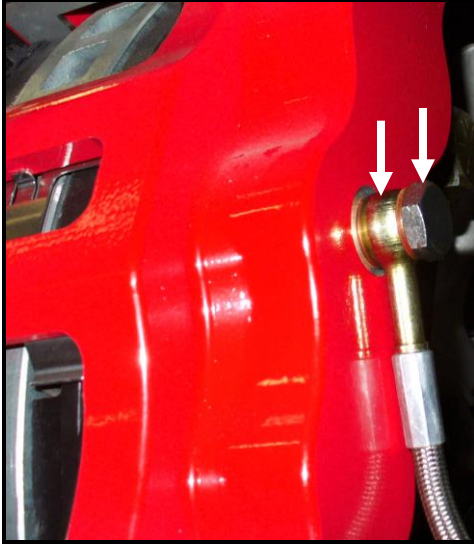

Figure 5: Installation of hose and washers
9. Finger tighten the steel braid banjo hose end with one copper washer on each side of the banjo fitting into the rear of the caliper. Connect the hose to the hardline at the frame and install the hose lock. ****IMPORTANT: Position the hose to avoid interference with the wheel and suspension components through the entire range of motion.** Tighten fitting and banjo bolt to 15-20 ft-lbs. See Figure 5 for reference, on continued page.